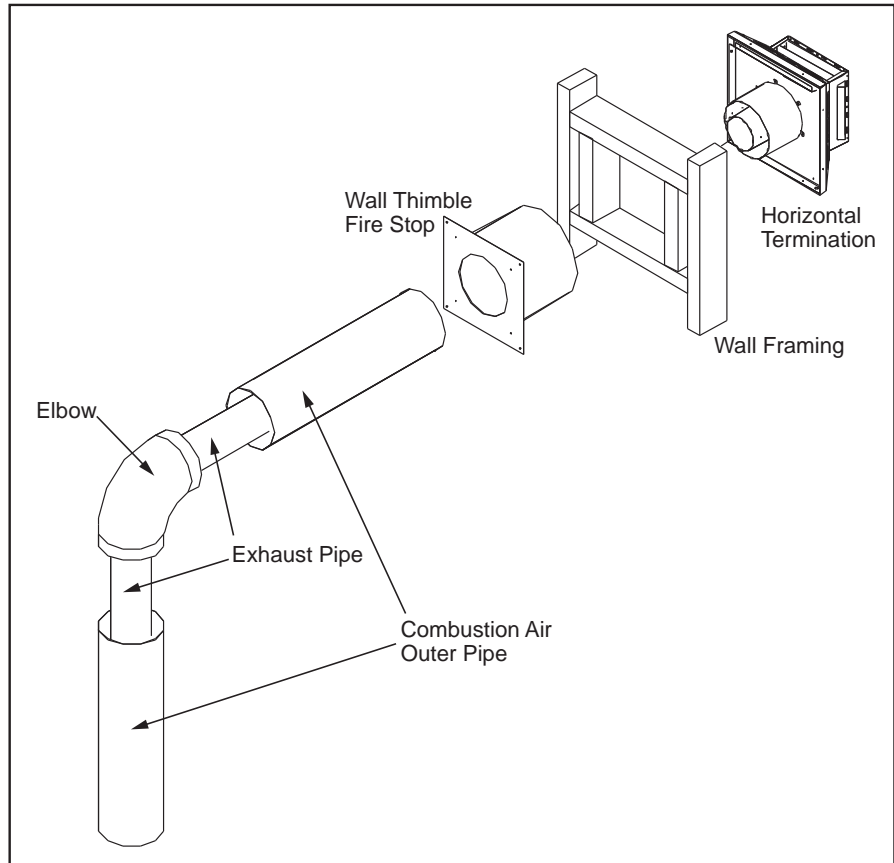

Figure 24. Horizontal Vent Termination
Step 3. With the pipe in the correct position and attached to the fireplace, mark the wall for a **10" (25.4 cm) x 10" (25.4 cm)** square hole (see Figure 24). The center of the hole should match the center line of the horizontal pipe. Cut and frame the hole in the exterior wall where the vent will be terminated. If the wall being penetrated is made of a non-combustible material (i.e. masonry or concrete) a **7" (17.8 cm)** hole is acceptable.